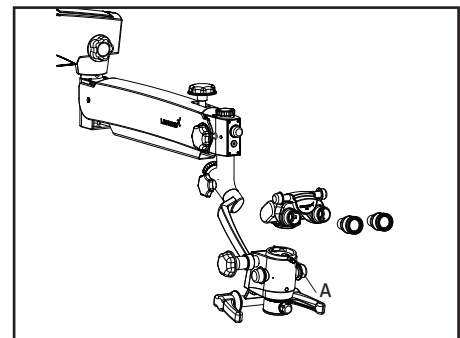

Fig 6
6. Install the binocular head and eyepieces on the magnichanger. Secure the binocular head with the head locking screw as shown in A in Fig. 6.